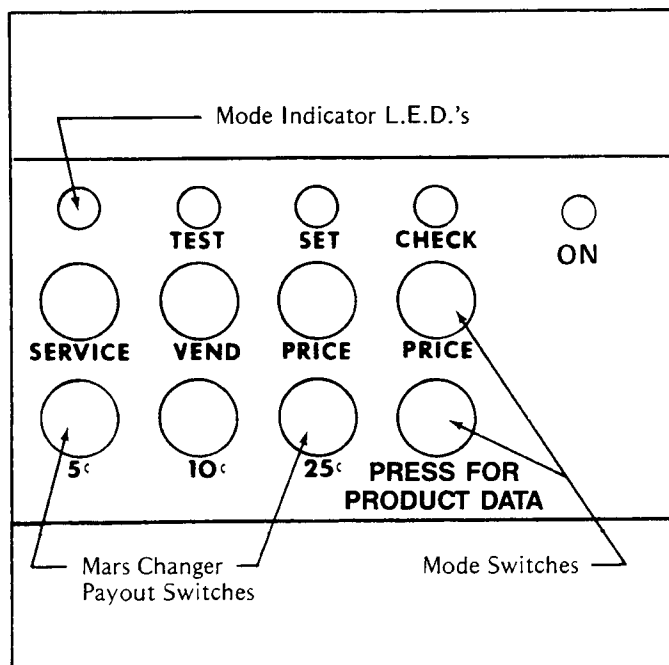
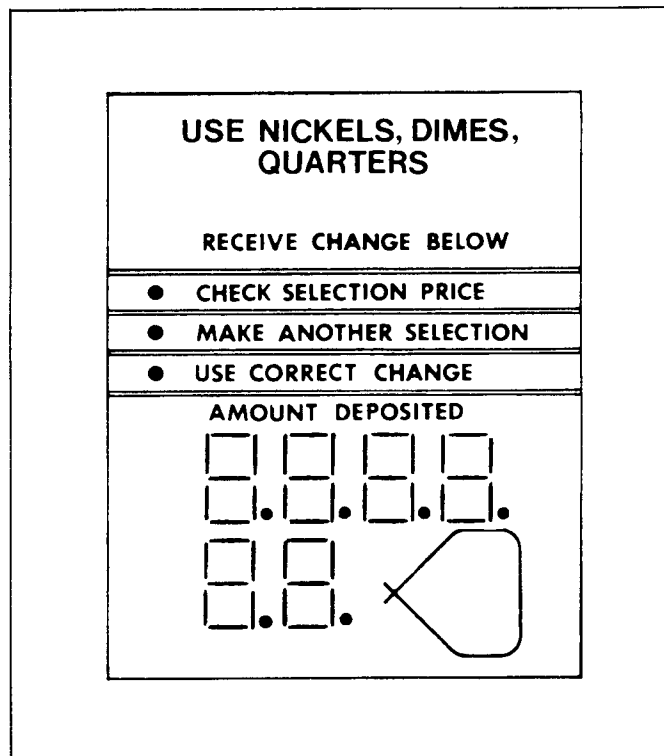

Figure 10. MODE SWITCHES.
Figure 20.
The mode switches are located on the control board. They allow for control of the following machine functions: Set price mode, check price mode, test vend mode, service mode and set serial number mode (see Figure 10). The
- A. Press the mode switch "set price" button on the control board (Figure 10). The L.E.D. above the set
- A. Press the mode switch "check price" button on the control board (Figure 10). The L.E.D. above the check price button will light and the selection panel display will be blank.
- A. Press the mode switch "set price" button on the control board (Figure 10). The L.E.D. above the set price button will light and the display located on the selection panel will be blank. Any selection programmed now will be removed from the operating program. This would be done when shelves are moved or the number of selections change (Example: Replacing a five selection shelf for a ten selection shelf.).
- A. Press the mode switch "check price" button on the control board (Figure 10). The L.E.D. above the check price button will light
- A. Press the mode switch "test vend" button on the control board (Figure 10). The L.E.D. above the test vend button will light and the display located on the selection panel will be blank. The machine is now ready to operate exactly under the same conditions as in the operate mode, so you will have to use money for the testing. After all servicing and testing has been made return the machine to the operate mode. The machine is now ready for normal customer usage.
- Press the mode switch "service" button located on the control board (Figure 10). The L.E.D. above the service mode button will light and the selection panel L.E.D.'s will all light (Figure 20). This tells the service person if all L.E.D.'s are in operating condition and that the Control Board is operating.
- If a non-functioning motor exists, record the selection on paper and repeat step B. Continue this procedure until all non-functioning selections have been displayed, recorded and the selection panel display reads all 8's (Figure 20).